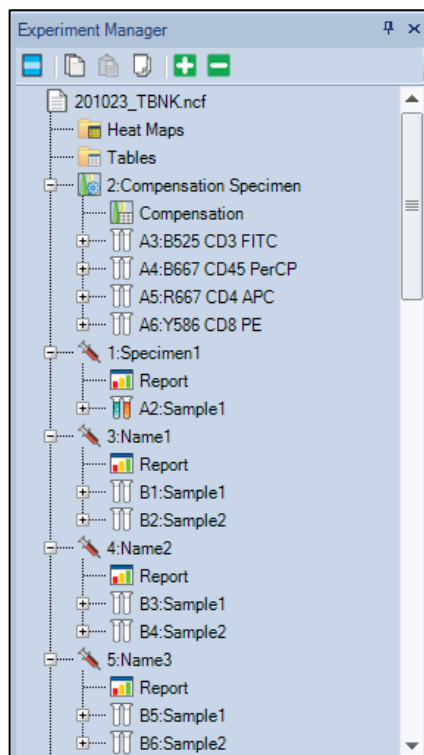

Figure 26. Experiment Manager
- 7 Check the **Work List** to ensure the settings are correct and click the **Apply Modifications** button  from the toolbar to save the changes made to the **Work List**. You will see the new samples automatically showing up in the **Experiment Manager** panel (Figure 26).